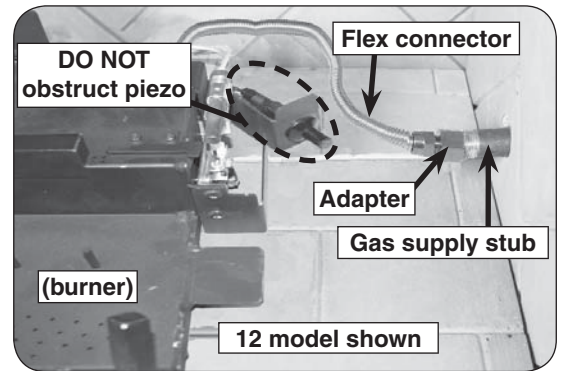

Fig. 16-1 Connect gas supply
2. Locate the gas-supply stub inside the fireplace and remove the cap, if attached (reference Fig. 16-1).
4. **Be sure gas to the fireplace is off.** Remove the adapter connected to the flex connector (pre-installed on the burner system). Attach the adapter to the gas-supply stub using a pipe compound resistant to all gasses. Tighten securely. Then attach the open end of the flex connector to the adapter. Tighten securely. (See Fig. 16-1.)